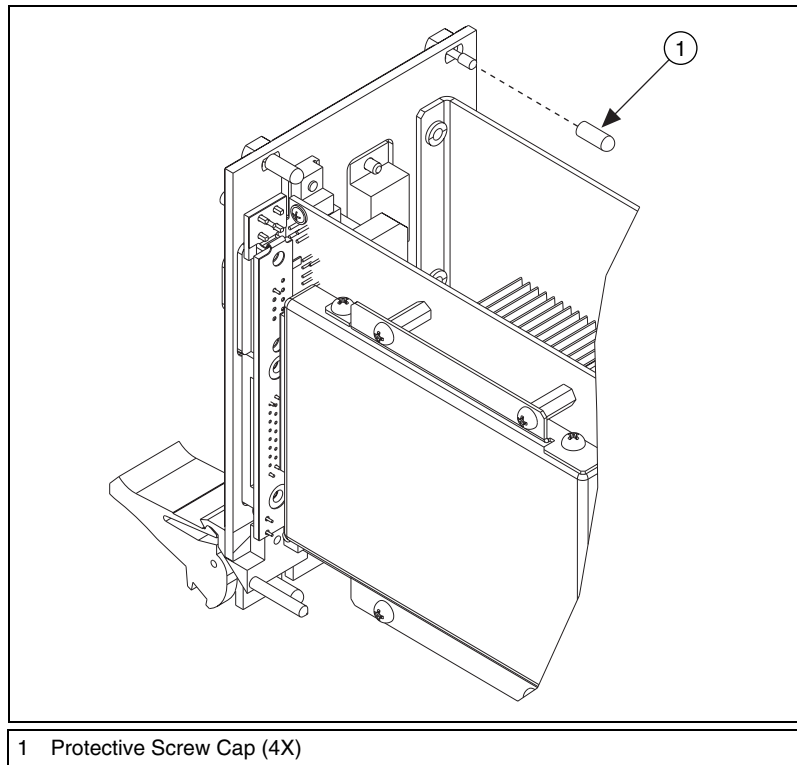

Figure 2-1. Removing Protective Screw Caps
4. Remove the protective plastic covers from the four bracket-retaining screws as shown in Figure 2-1.